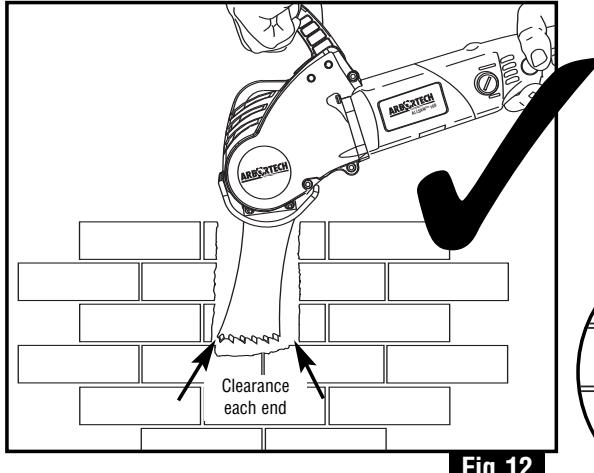
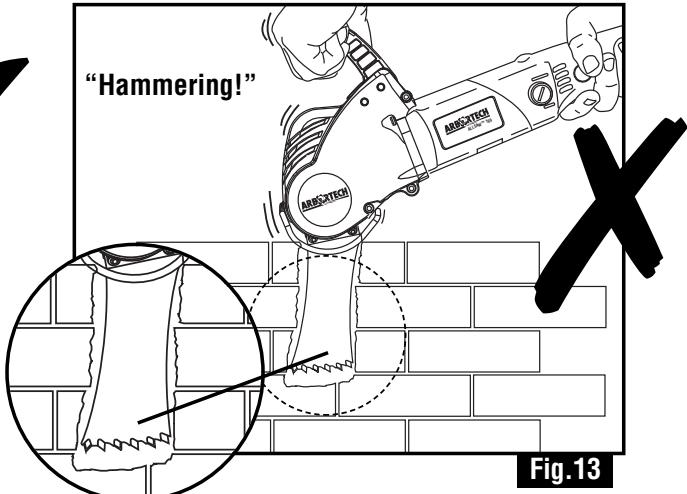

Fig.12
Fig.13
- When using the Mortar Plunge blades, the cut should have enough clearance on each end (shown in fig:12), to ensure that no hammering of the blade ends occurs (as shown in fig.13).